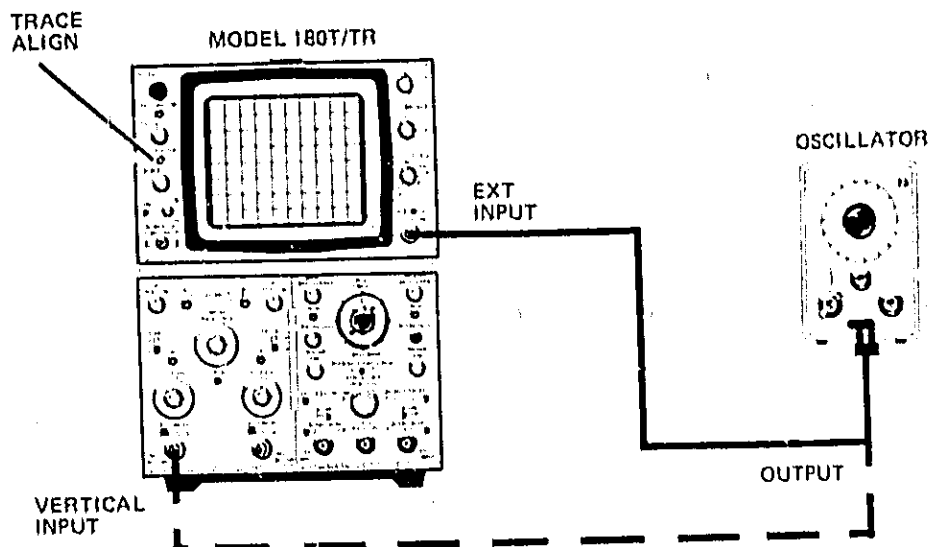

Figure 5-10. Trace Alignment Adjustment Test Setup
- c. Connect test oscillator 400-Hz, 10 V output to EXT INPUT (see figure 5-10).